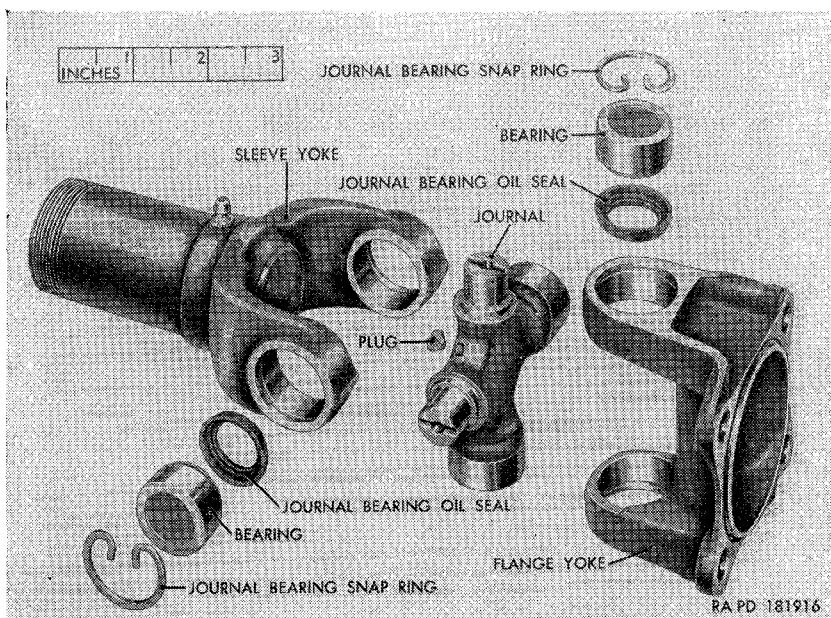

Figure 132. Rear propeller shaft front universal joint and rear propeller shaft-to-transfer flange yoke—partially exploded view.
*c. Rear Propeller Shaft Universal Joints Disassembly.* Remove the rear propeller shaft with universal joints (par. 203*a*). Procedure for disassembly of the rear universal joint of the rear propeller shaft is the same as the procedure for disassembly of the universal joints of the front propeller shaft (*a*(2) and (3) above). For disassembly of the front universal joint of the rear propeller shaft, refer to figure 132.
- (1) Follow the procedure of *a*(3) above to remove journal and bearings from the sleeve yoke.
- (2) Follow the procedure of *a*(3) above to remove journal and bearings from the rear propeller shaft-to-transfer flange yoke.
*d. Rear Propeller Shaft Universal Joints Assembly.* Procedure for assembly of the rear universal joint of the rear propeller shaft is the same as the procedure for assembly of the universal joints of the front propeller shaft (*b* above). For assembly of the front universal joint of the rear propeller shaft, refer to figure 132.
- (1) Follow the procedure of *b*(1) and (2) above to install the journal and bearings in the sleeve yoke.
- (2) Follow the procedure of *b*(1) and (2) above to install the journal and bearings in the rear propeller shaft-to-transfer flange yoke.
- (3) Install the rear propeller shaft with universal joints (par. 203*b*).